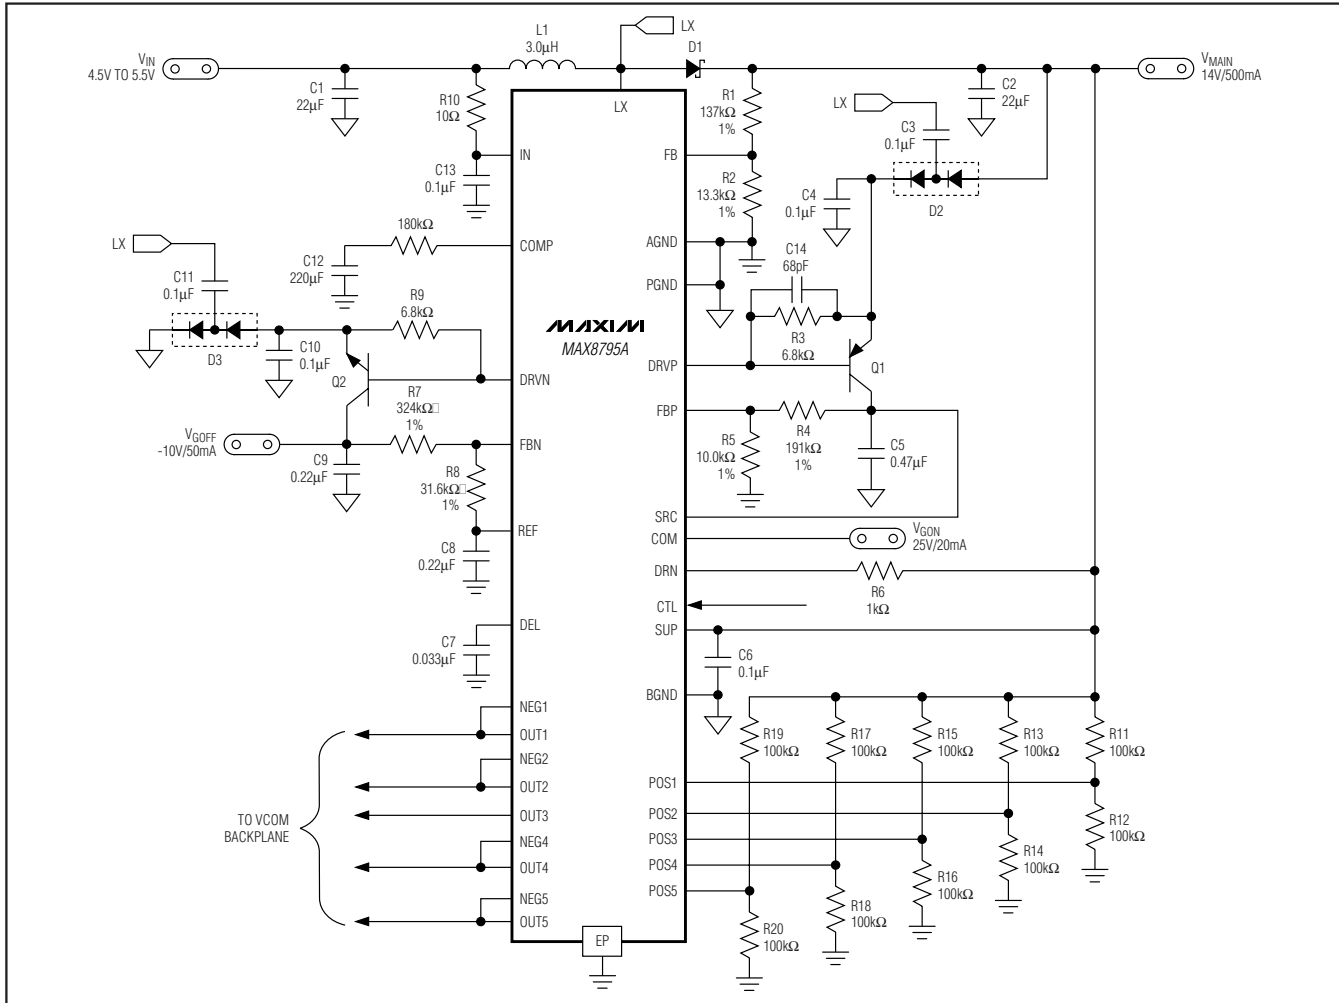

Figure 1. Typical Operating Circuit
(Circuit of Figure 1,  $V_{IN} = 5V$ ,  $V_{MAIN} = 14V$ ,  $V_{GON} = 25V$ ,  $V_{GOFF} = -10V$ ,  $T_A = +25^\circ C$ , unless otherwise noted.)
The MAX8795A typical operating circuit (Figure 1) is a complete power-supply system for TFT LCDs. The circuit generates a +14V source-driver supply and +25V and
-10V gate-driver supplies. The input voltage range for the IC is from +2.5V to +5.5V. The listed load currents in Figure 1 are available from a +4.5V to +5.5V supply. Table 1 lists some recommended components, and Table 2 lists the contact information of component suppliers.
The gate-on linear-regulator controller (REG P) is an analog gain block with an open-drain n-channel output. It drives an external pnp pass transistor with a 6.8kΩ base-to-emitter resistor (Figure 1). Its guaranteed base-drive sink current is at least 1mA. The regulator including Q1 in Figure 1 uses a 0.47μF ceramic output capacitor and is designed to deliver 20mA at 25V. Other output voltages and currents are possible with the proper pass transistor and output capacitor. See the *Pass-Transistor Selection* and *Stability Requirements* sections.
The gate-off linear-regulator controller (REG N) is an analog gain block with an open-drain p-channel output. It drives an external npn pass transistor with a 6.8k $\Omega$  base-to-emitter resistor (Figure 1). Its guaranteed base-drive source current is at least 1mA. The regulator including Q2 in Figure 1 uses a 0.47 $\mu$ F ceramic output capacitor and is designed to deliver 50mA at -10V. Other output voltages and currents are possible with the proper pass transistor and output capacitor (see the *Pass-Transistor Selection* and *Stability Requirements* sections).
REG N is typically used to provide the TFT-LCD gate drivers' gate-off voltage. A negative voltage can be produced using a charge-pump circuit as shown in Figure 1. REG N is enabled after the voltage on REF exceeds 1.0V. Each time it is enabled, the control goes through a soft-start routine that ramps down its internal reference DAC from VREF to 250mV in 128 steps.